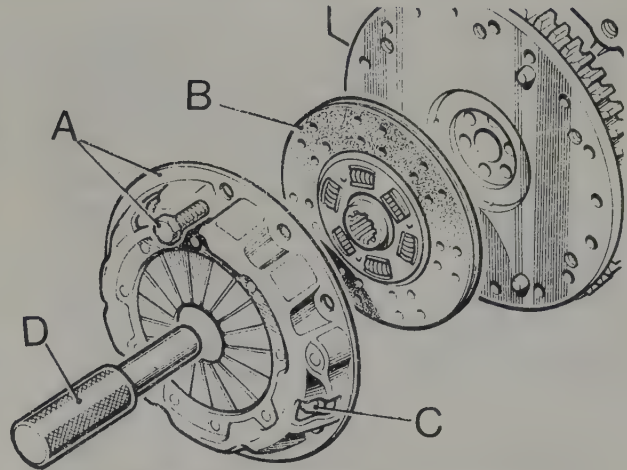

Fig. 5.20. Major clutch components
- 4 When the bolts are finally removed, withdraw the pressure plate assembly from the flywheel and catch the driven plate as it is released from the face of the flywheel (Fig. 5.20).